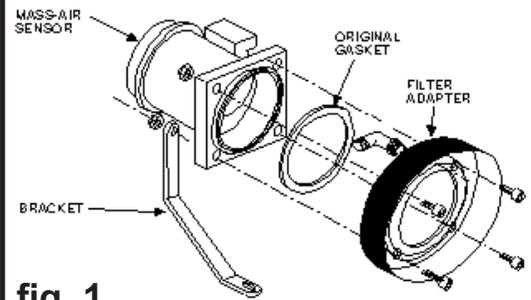

fig. 1
- 7) Assemble the Mass-air sensor, filter adapter, 90 degree vent tube and bracket as shown in fig. 1.